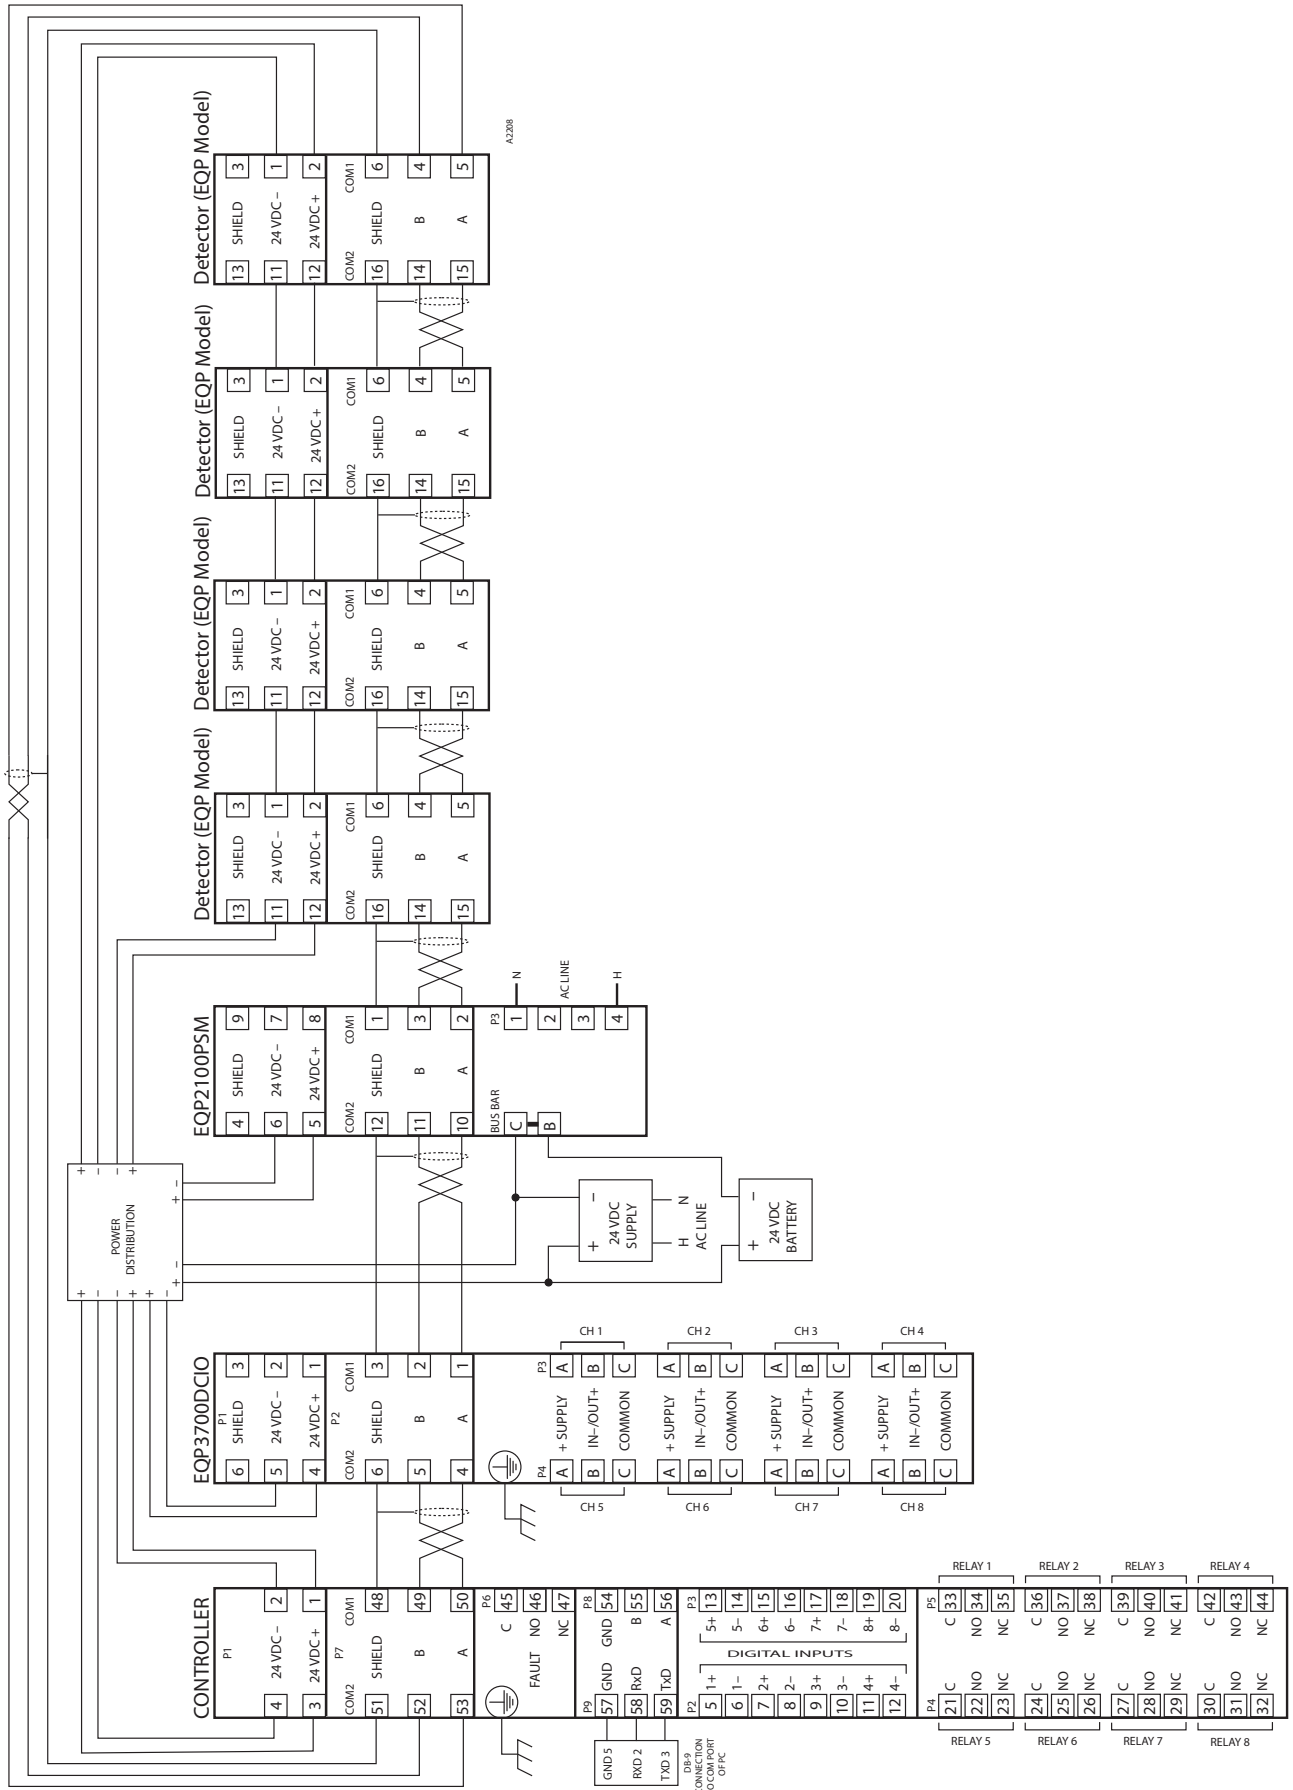

Figure 13—Detector Terminal Block (EQP Model)
1. Connect external wires to the appropriate terminals inside the terminal compartment, shown in Figure 13. See Figure 14 for terminal identification.